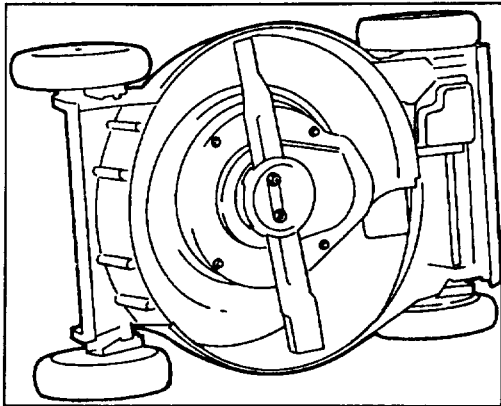

Figure 29
3. Tip mower on its right side (Fig. 29).